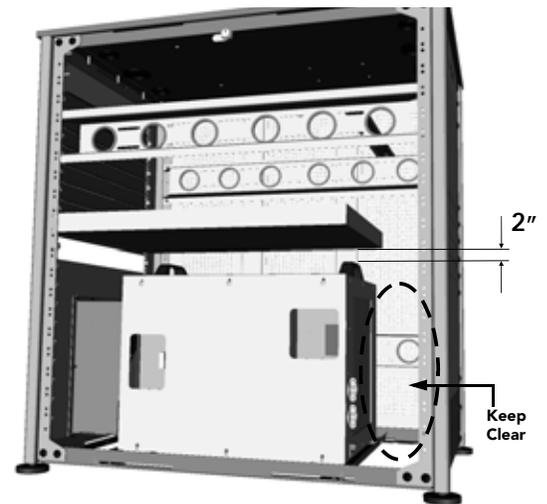

Figure 2-5 Steps to Installing LPS
**CAUTION!** Do not install any components in front of the lamp power supply that will restrict airflow.. See **Figure 2-5**.
- j. When installing other components in the rack stand allow at least 2” clearance above the LPS handles for ease of servicing. See **Figure 2-5**.